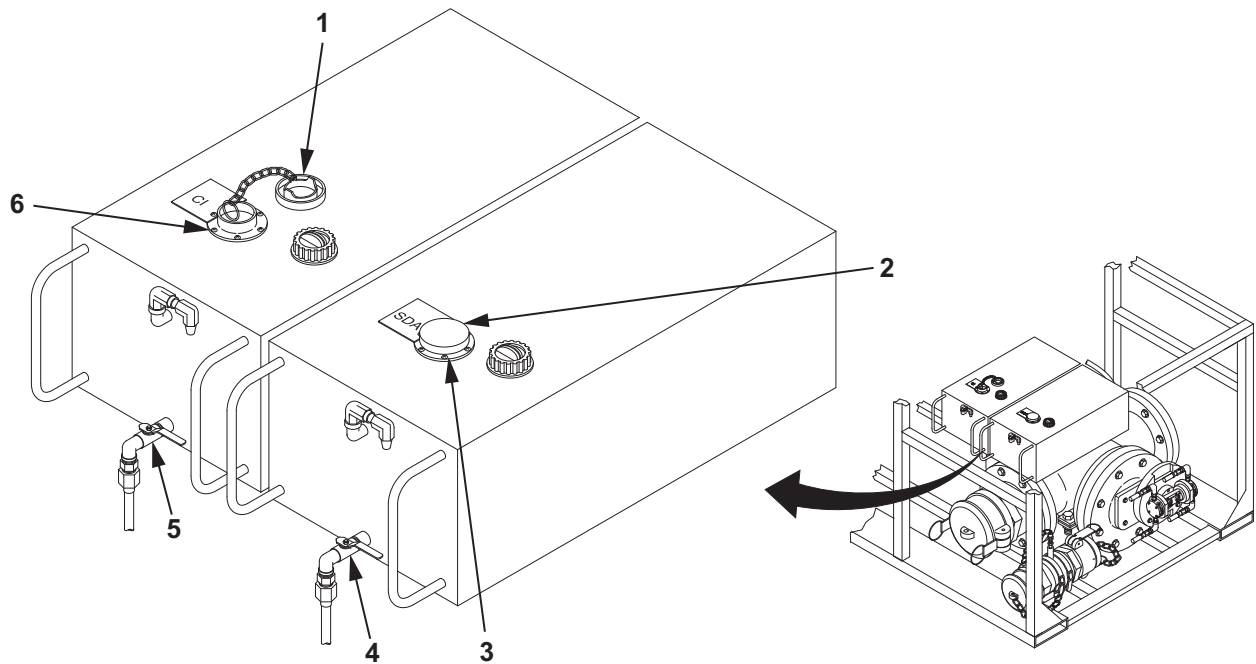

Figure 21. Fuel Additive Injection Assembly CI and SDA Tanks.
1. Remove cap (Figure 21, Item 1) from CI tank (Figure 21, Item 6).
2. Fill CI tank (Figure 21, Item 6) with additive.
3. Install cap (Figure 21, Item 1) on CI tank (Figure 21, Item 6).
4. Remove cap (Figure 21, Item 2) from SDA tank (Figure 21, Item 3).
5. Fill SDA tank (Figure 21, Item 3) with additive.
6. Install cap (Figure 21, Item 2) on SDA tank (Figure 21, Item 3).
7. Position the CI additive tank valve (Figure 21, Item 5) to the open position (handle in line with valve).
8. Position the SDA additive tank valve (Figure 21, Item 4) to the open position (handle in line with valve).